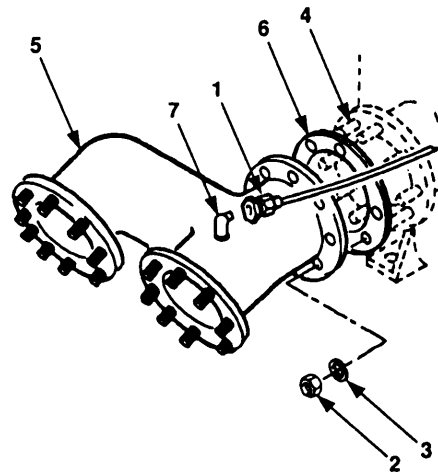

Figure 4-53. Suction Manifold Maintenance.
- a. Disconnect gauge hose(s) (figure 4-53, 1).
- b. Remove eight nuts (2) and lockwashers (3) from studs (4) of centrifugal pump.
- c. Remove suction manifold (5) from centrifugal pump.
- d. Remove and discard gasket (6).
- e. Remove fitting(s) (7) from suction manifold.